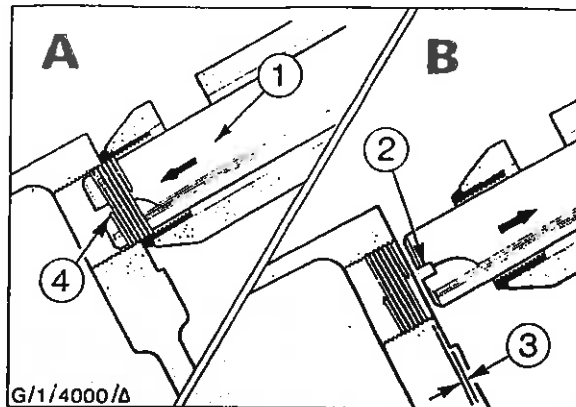

Fig. 3 - Installing Oil Pan Insert
5. Place the tool squarely over the drain plug hole and without applying any end pressure, wind the insert into the oil pan until the insert is 1,6 to 2,4 mm (0,063 to 0,095 in) below the face of the boss - see Fig. 3.